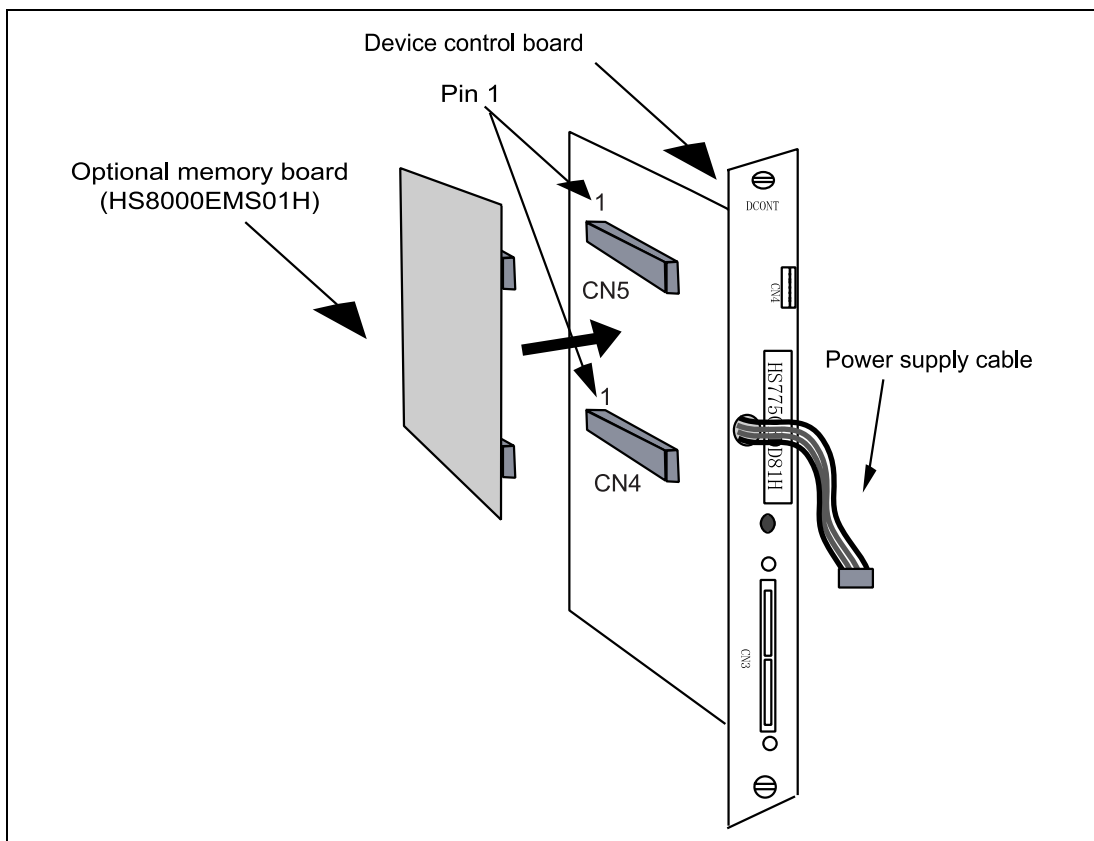

Figure 3.2 Connecting the Memory Board
4. When using the optional memory board, connect the optional memory board to the device control board as shown in figure 3.2. Then connect the device control board to the E8000S station. Confirm pin 1 of CN4 and CN5 on the device control board and align pin 1 with the optional memory board.